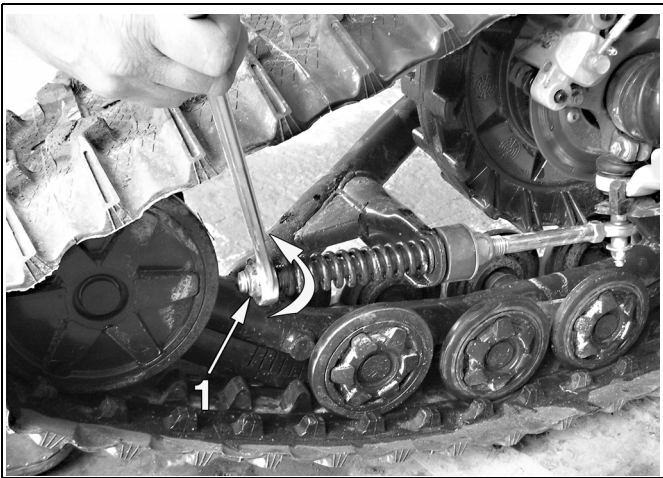

Figure 3
- Loosen the nut (1) compressing the spring of the stabilizing rod (refer to Figure 3).